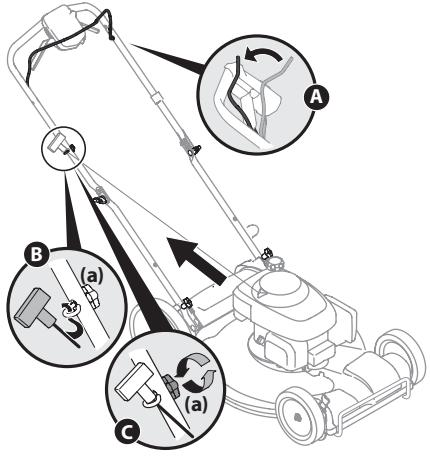

Figure 2-4
- The rope guide is attached to the right side of the upper handle. Loosen the wing knob (a) which secures the rope guide and perform the following (See Figure 2-4):